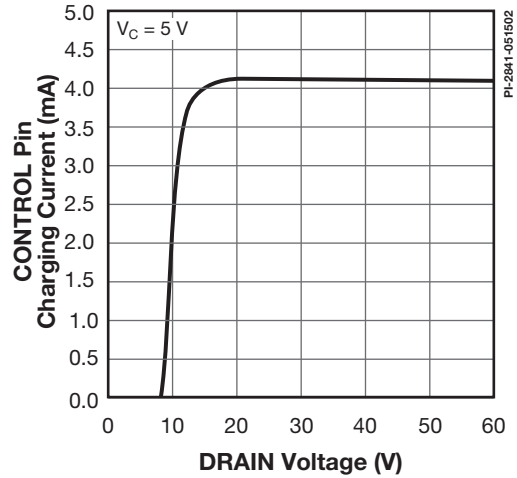

Figure 45. I_c vs. DRAIN Voltage.
- It is possible to start up and operate DPA-Switch at DRAIN voltages well below 16 V. However, the CONTROL pin charging current is reduced, which affects start-up time, auto-restart frequency, and auto-restart duty cycle. Refer to Figure 45, the characteristic graph on CONTROL pin charge current (I_C) vs. DRAIN voltage for low voltage operation characteristics.